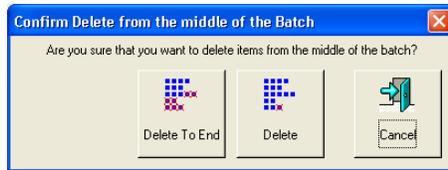

FIGURE 16: Confirm delete
- If the **Allow Delete** parameter is set to **Delete To End Of Batch**, you can also choose a document thumbnail and delete all the documents scanned after the selected document. When the **Delete** button is pressed, the Confirm Delete window (Figure 16) will appear.